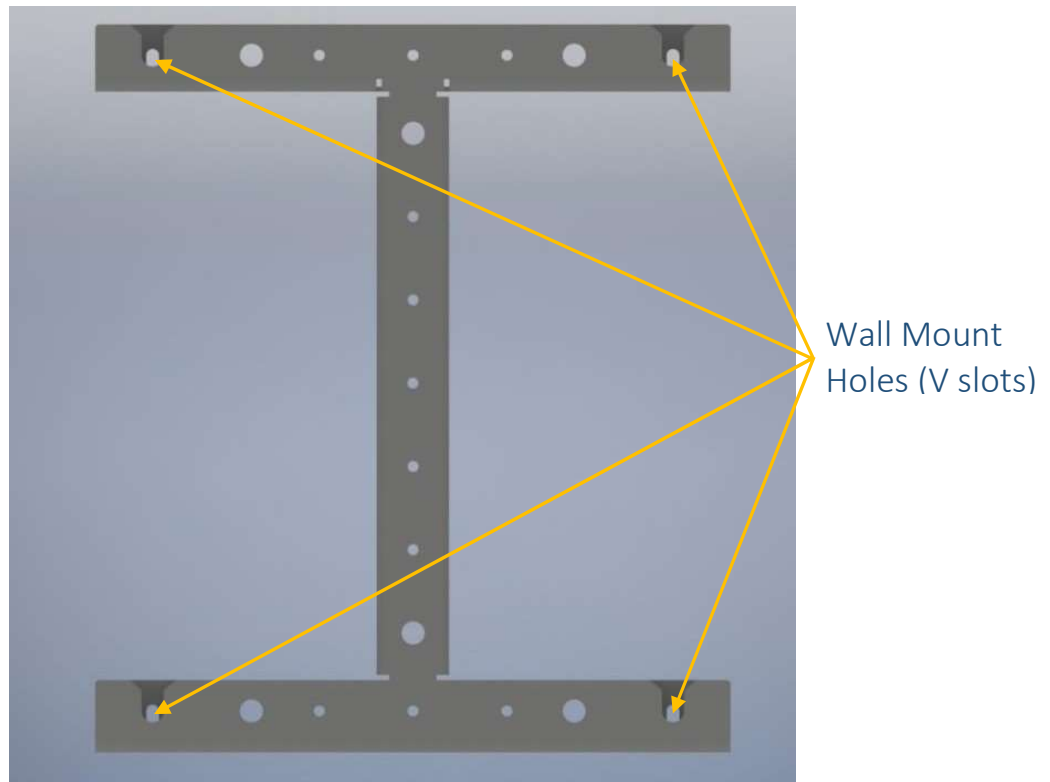

Fig 3
9. Tighten all four wing bolts to secure the bracket to the wall. Using a level on the bracket make certain that the bracket is level before completely tightening the bolts as shown in fig 3.
11 Installation Procedure Fig 3 & 4